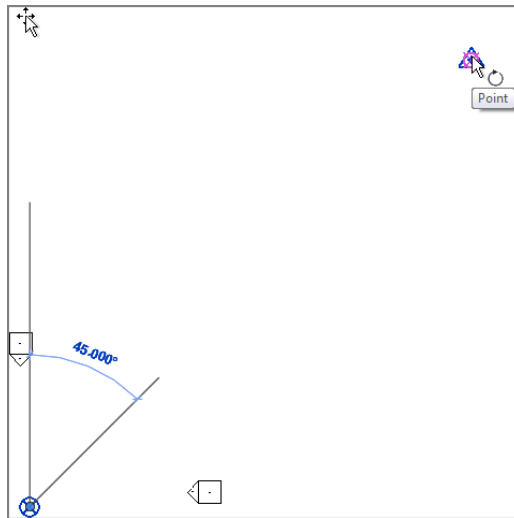

FIGURE 18.28: Finalizing the rotation
3. Pick the node on the Survey point, as shown in Figure 18.28.
4. Pick a second point at 45° left (which lands you straight up—see Figure 18.28). Your site view is now facing true north, and all your other views are project north.